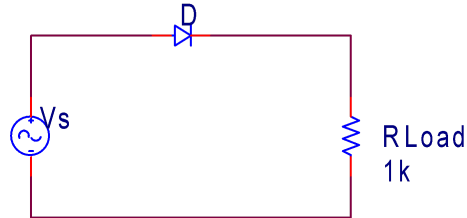

Figure 7: Half-wave Rectifier
- Using the 1N4004 Diodes, build the half-wave rectifier circuit shown below (Figure 7). Set the source to a 4 Vpp, 250 Hz sinusoidal signal. Verify that the load voltage is consistent with expectations. Measure the average load voltage.